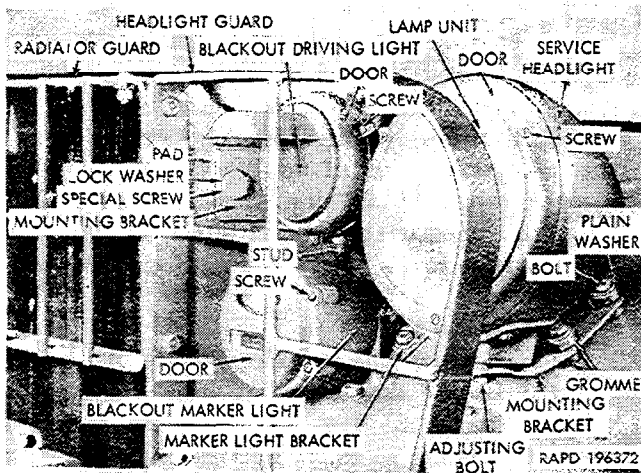

Figure 2-44. Service headlight, blackout driving lights, and blackout marker light.
(5) If either headlight pattern differs from view 2, figure 2-43, loosen the adjusting bolt attaching the headlight to the fender mounting bracket (fig. 2-44) and move the headlight as required to produce the correct pattern. Then tighten the bolt. Adjust the other headlight in the same manner.
tungsten filament lamps are used for the blackout marker lights (fig. 2-44) and the taillights. The stoplight lamps are a single tungsten filament. To replace any of the lamps, unscrew the six screws that secure the door to the body (fig. 2-48). Remove the door and the door gasket. Remove the lamp to be replaced and install a new lamp of the same type. Install the gasket, replacing it with a new one if necessary, and install the door (fig. 2-48).
b. Remove Service Headlight and Mounting Bracket (fig. 2-44).
(4) Remove the connectors for cables (17) and (18) from the clips on the fender front splash shield, separate the connector shells and remove the headlight cables from the connector sleeves.
(5) Remove the three nuts and lockwashers that secure the headlight cable cover to the underside of the fender and remove the cover.
(6) Remove the two remaining nuts and lockwashers from the headlight bracket bolts, and pull the headlight and mounting bracket away from the fender to provide access to the cable grommet. Remove the grommet.
(7) Remove the headlight with attached cables and the mounting bracket, withdrawing one cable at a time through the openings in the splash shield and the fender.
(8) Remove the adjusting bolt, lockwasher, and special washer that secure the headlight to the mounting bracket, and remove the headlight.
(9) Remove the four mounting bracket bolts and flat washers and the four rubber grommets from the mounting bracket.
d. Install Service Headlight and Mounting Bracket (Fig. 2-44).
(1) Install the four rubber grommets in the mounting bracket, engage the groove in each grommet with the bracket. Install a plain washer on each bracket bolt and install the bolts through the grommets.
(2) Install the lockwasher and special washer on the bolt, with the radius side of the special washer up. Position the headlight on the bracket, and install the bolt with washers. Tighten just enough to hold the parts.
(3) Thread the three headlight cables through the openings in the fender and in the splash shield. Install the split rubber grommet on the cables, and engage it in the fender opening.
(4) Position the mounting bracket on the fender with the bracket bolts in the bolt holes, position the cable cover, and install the five lockwashers and nuts to secure the bracket and cable cover.
(5) Connect the headlight cables (17) and (18) to their respective cables. Connect the connector shells and engage the connectors in the clips on the splash shield.
(6) Attach the ground cable (91) to the splash shield with the lockwasher and tapping screw.